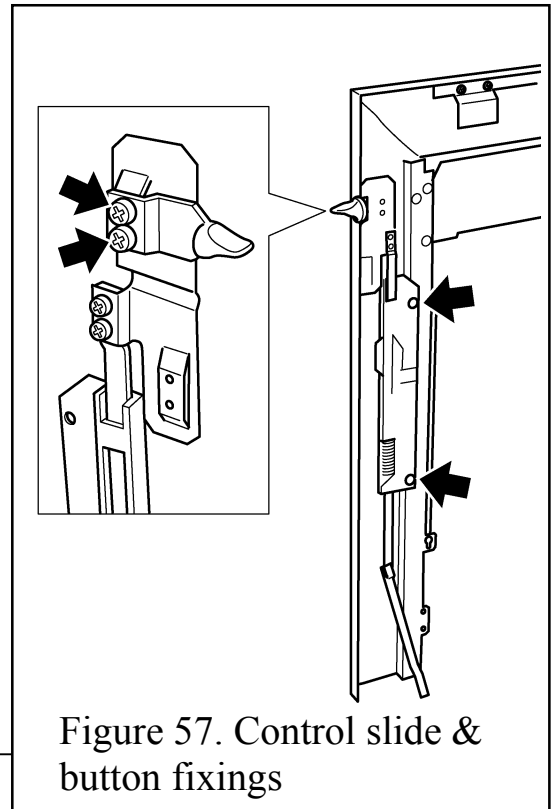

Figure 57. Control slide & button fixings
2. Detach the slide unit by removing two screws securing the plastic slide mechanism to the rear of the front surround – See figure 57.
2. Detach the slide button by removing two screws – See figure 57.